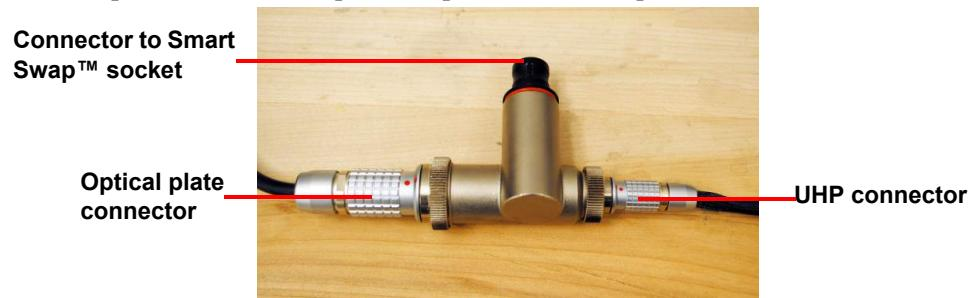

Figure 38 The Smart Swap UHP adapter.
- 7 Connect the Optical Plate and Upper Heated Plate cables to the left and right sockets on the Smart Swap Upper Heated Plate adapter, respectively (see the Figure 38 below). For proper system identification, it is important that this step be completed before step 8.